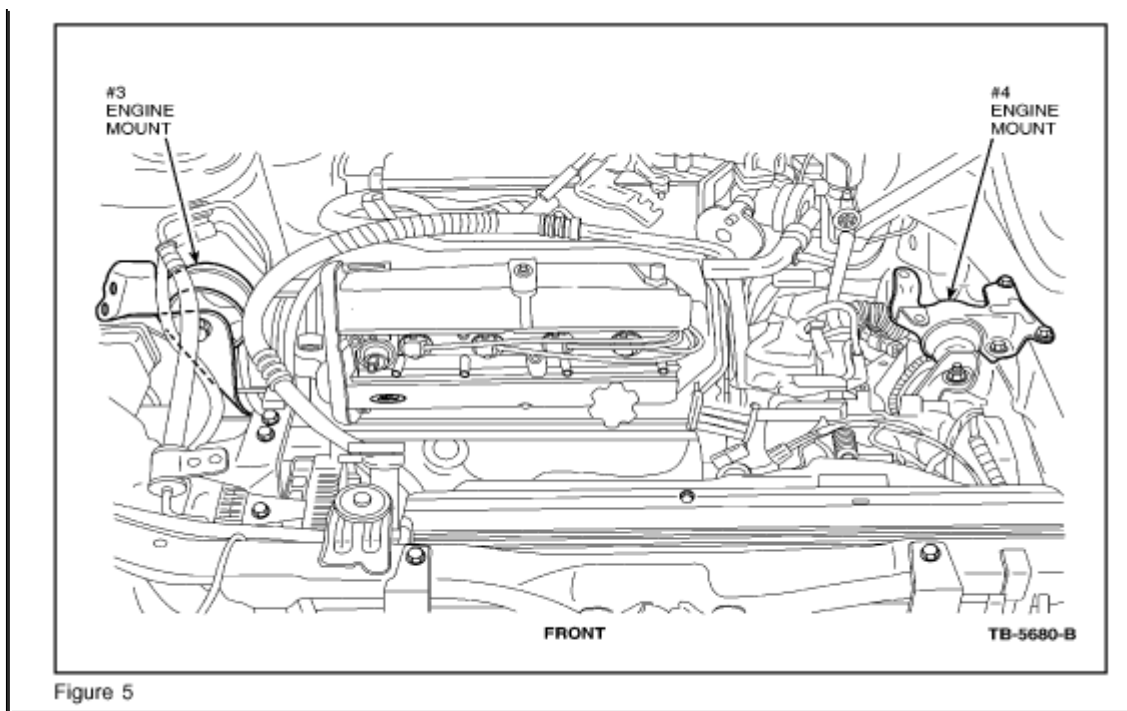

Figure 5
16. Remove the # 3 Engine Mount and damper (Figure 5).
20. Vehicles built prior to 1/29/1999, remove the # 4 Engine Mount (Figure 5) and replace with either (XS4Z-6038-BA) for automatic transmissions or (XS4Z-6038-CA) for manual transmissions. Fasten the mount to the vehicle frame (4 fasteners) first and torque to 44-60 N.m (32-44 lb.ft.). Next fasten to the transaxle (3 fasteners) and torque to 67-93 N.m (50-68 lb.ft.).